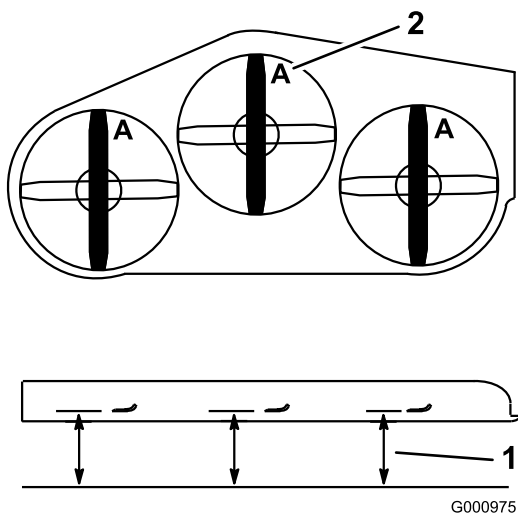

Figure 97
- Rotate the blades until the ends face forward and backward (Figure 97).
- Measure from a level surface to the cutting edge, position A, of the blades (Figure 97).